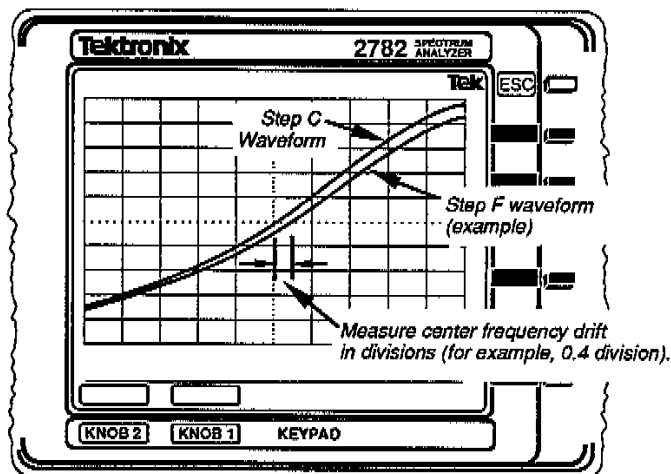

Figure 2-14. Center Frequency Drift Measurement.
- f. Calculate the difference between the horizontal position of the slope-crossing in step c and the position of the slope-crossing in step f (as shown in Figure 2-14). Then, press the M key on the computer, and enter the